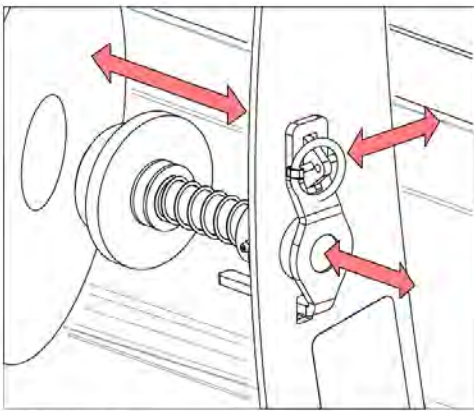

Fig. 4
5. Remove linchpin from rear of plastic wrap carrier. See *Fig.4*.